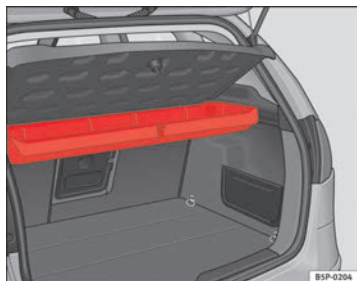
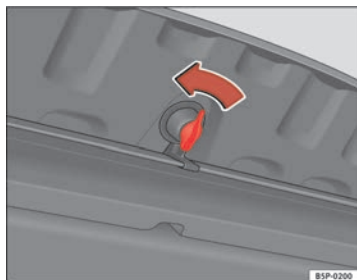

Fig. 122 Warning triangle storage under the rear cover
Fig. 123 Opening the storage compartment
The warning triangle* is located in a stowage box under the luggage compartment cover ⇒ fig. 122. To open this storage compartment, turn the knob* 90° ⇒ fig. 123.
- Open the storage compartment by turning the knob* 90° \Rightarrow page 151, fig. 123.